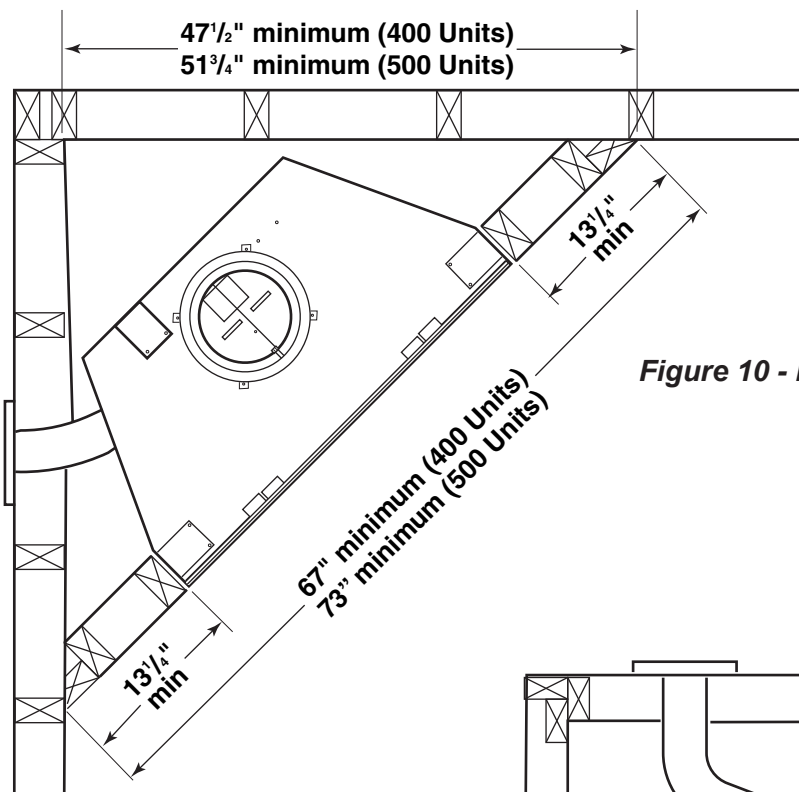

Figure 10 - Minimum Clearances for Corner Installation
1. Provide required clearances shown in *Figures 10 through 12*. Provide 2" minimum chimney air space clearance to combustibles.